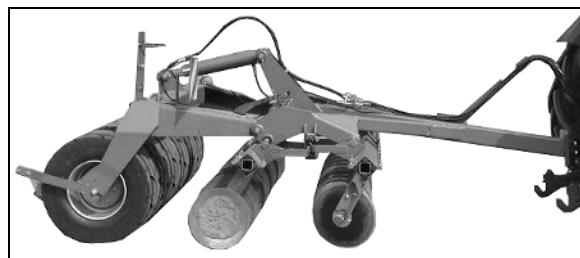

Fig. 28
- Lower both disc rows completely. (Fig. 28).